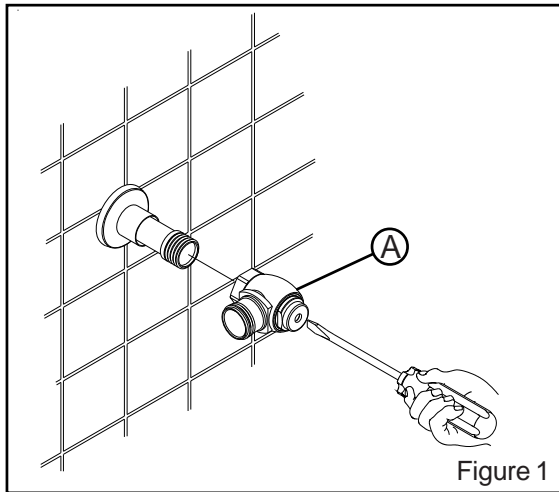

Figure 1
- 1.) Install stop valve assembly (A) using proper size supply escutcheon and sweat solder adapter kit if applicable. Thread sealing compounds should be used on male NPT threads only. **See Figure 1**